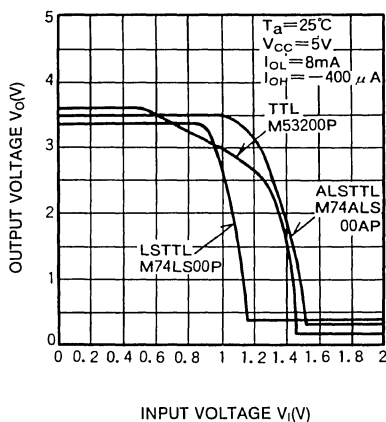
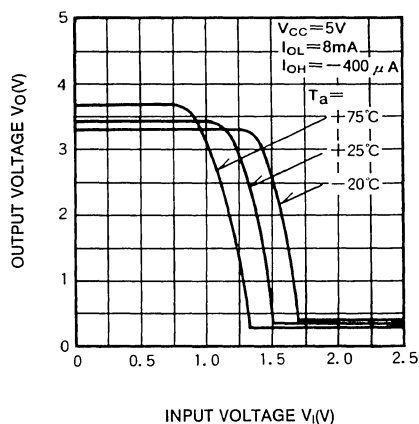

Fig. 5 Input vs. output voltage characteristics comparison
Fig. 6 Temperature-dependent input vs. output voltage characteristics
The value of formula (1) is higher than the threshold voltage of LSTTL by a forward voltage drop of SBD (Schottky Barrier Diode). It means that a standard ALSTTL gate has a large margin for low-level input voltage 0.8V even at $T_a = 75^\circ C$. Fig. 5 shows the transfer function of TTL, LSTTL and ALSTTL gate. Fig. 6 shows the temperature-dependency of ALSTTL transfer function.